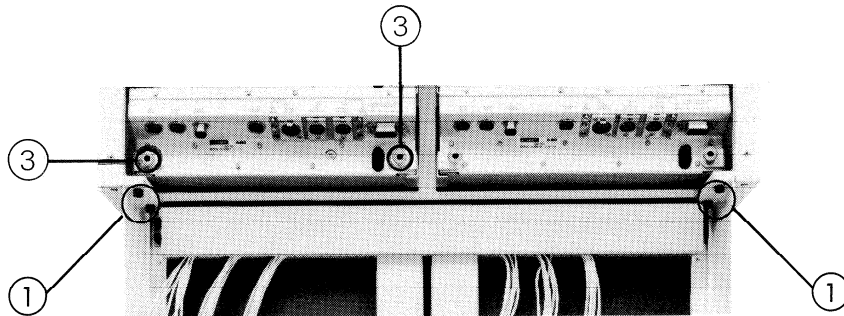

Fig. 12
Remove the audio amplifier by loosening the captive thumb screw (3) (see figure 12).